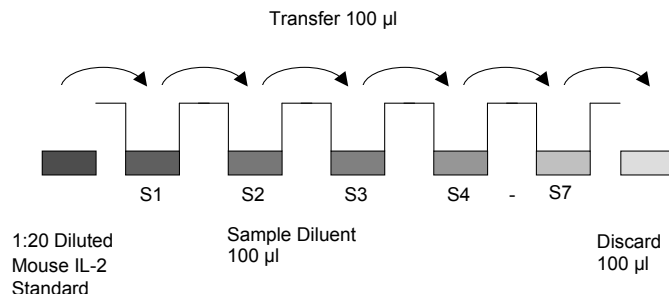

Fig. 9 Dilute standards - microwell plate
3. Standard dilution on the microwell plate (Alternatively the standard dilution can be prepared in tubes - see “External standard dilution” on page 3.): Add 100 µL of Sample Diluent in duplicate to all standard wells. Pipette 100 µL of prepared standard (see “Mouse IL-2 standard” on page 3, concentration = 100.00 pg/mL) in duplicate into well A1 and A2 (see Table 1). Mix the contents of wells A1 and A2 by repeated aspiration and ejection (concentration of standard 1, S1 = 50.00 pg/mL), and transfer 100 µL to wells B1 and B2, respectively (see Figure 9). Take care not to scratch the inner surface of the microwells. Continue this procedure 5 times, creating two rows of mouse IL-2 standard dilutions ranging from 50.00 to 0.8 pg/mL. Discard 100 µL of the contents from the last microwells (G1, G2) used.